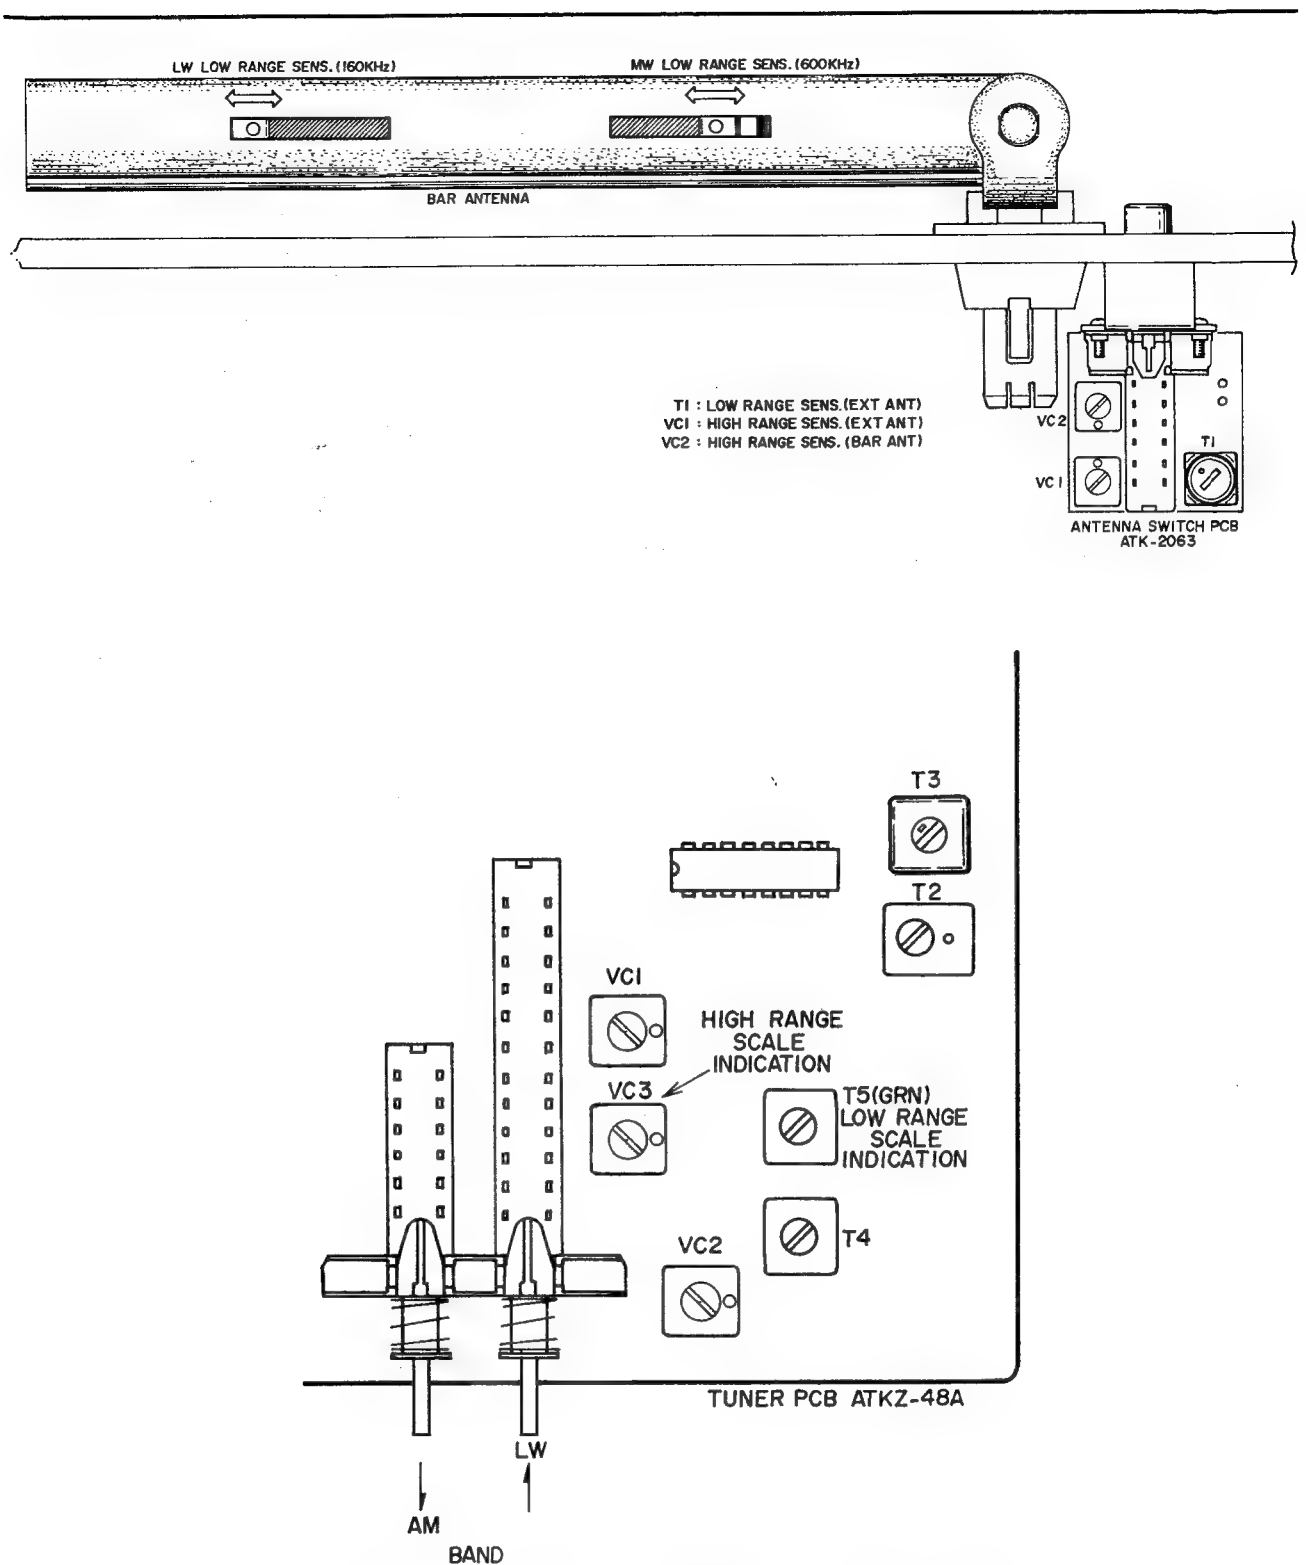

Fig. 9 Tuner P.C Board ATKZ-48A and Antenna Switch
3. LW SECTION ADJUSTMENTS (AT-K11L and AT-K22L Only; Refer to Figs. 9, 12, 13)
Unless otherwise specified, use the adjustment points provided on the Tuner P.C Board (Fig. 9).